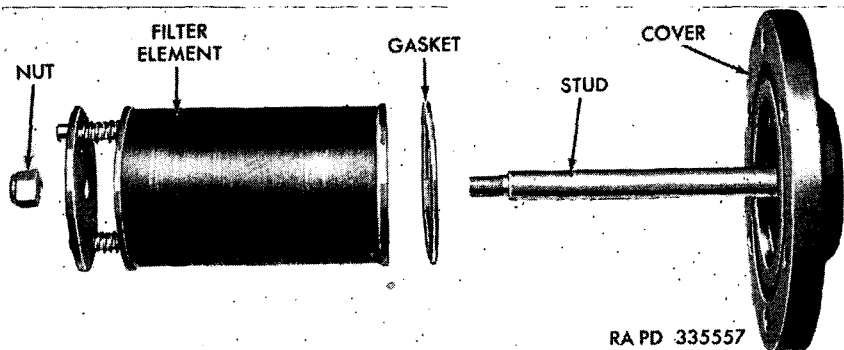

Figure 149. Fuel tank filter—exploded view.
- (1) *Fuel tank filters* (figs. 149 and 156). Remove top deck (par. 158 b.) Remove power plant (par. 159). Drain fuel tanks (par. 177). Remove right-fuel-tank-shut-off valve (par. 178). To remove right-fuel-tank-fuel filter, remove six screws and lock washers which secure fuel filter cover to fuel tank. Remove filter and strip off gasket. Remove left-fuel-tank-shut-off valve (par. 178). Remove six screws and lock washers which secure fuel filter cover to left fuel tank. Remove filter and strip off gasket.
b. CLEANING (figs. 149 and 150). Remove nut from filter cover stud of fuel tank filter to relieve tension on filter element and thor-